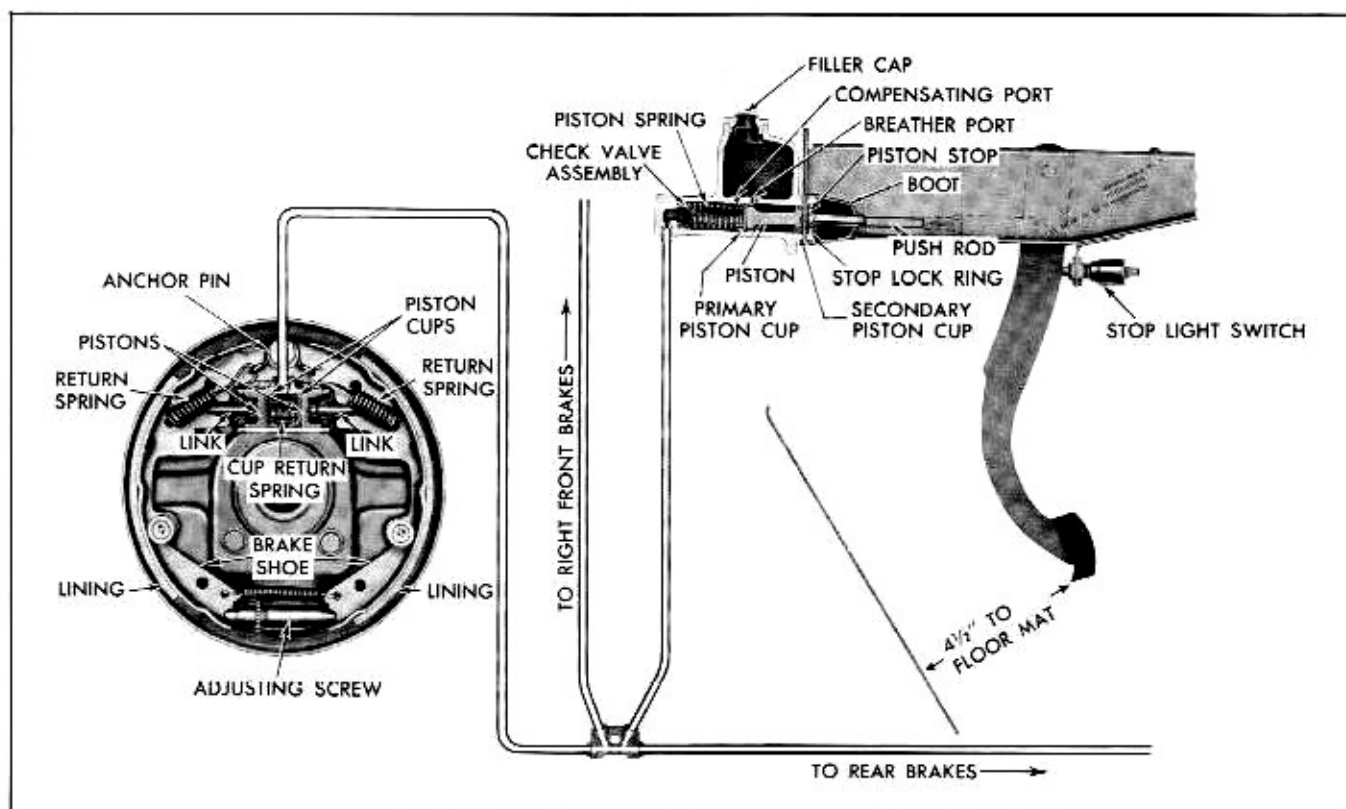

Fig. 5-1 Schematic Diagram of Hydraulic System
GENERAL DESCRIPTION (Fig. 5-1)
Depressing the brake pedal moves the master cylinder push rod and piston, forcing hydraulic fluid out through a check valve (Fig. 5-1). This fluid flows through the hydraulic lines into the wheel cylinders. Forcing the wheel cylinder pistons outward from the center of the cylinder and expanding the brake shoes and linings against the brake drums.
CAUTION: *If stop light switch or pedal bracket prevents full return of brake pedal and master cylinder push rod, the master cylinder piston may be prevented from returning to its stop. This can block off the compensating port which prevents brake shoes from returning fully when the pedal is released (see Fig. 5-1). A further complication which follows a blocked compensating port is lining drag and complete brake burn-up on the first prolonged drive. It is necessary that the primary cup be entirely clear of the compensating port to provide a safety factor against normal rubber swell and expansion and deflection of body parts and pedal linkage.*
4. Remove brake shoe pull back springs (Fig. 5-1) using tool J-8049.